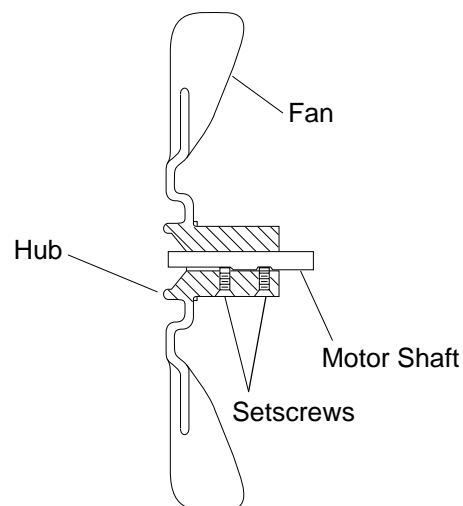

Figure 10 - Fan Cross Section
15. Replace fan on motor shaft. Make sure setscrew is touching back of flat surface on motor shaft (see Figure 10).